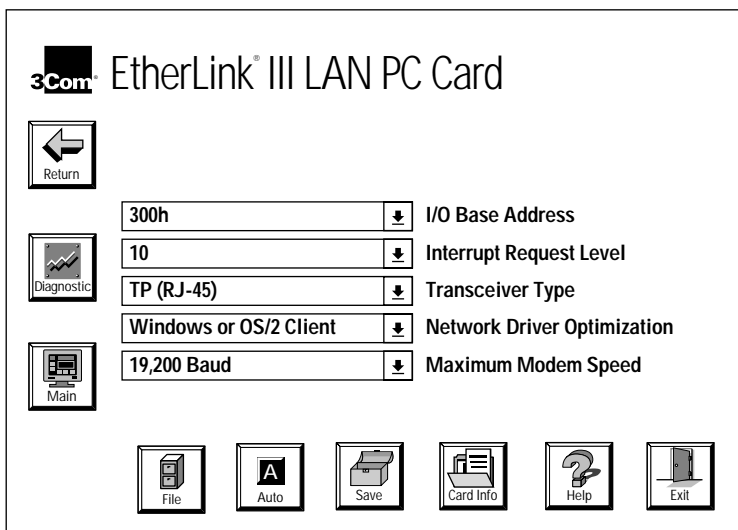

Figure 5-3 Configuration Screen
A Configuration screen similar to Figure 5-3 appears. The values shown here are not default values.
The Configuration screen appears, as shown in Figure 5-3. You can change the following PC Card configuration parameters: I/O Base Address, Interrupt Request Level, Transceiver Type, Network Driver Optimization, and Maximum Modem Speed.
- 3 To change the PC Card configuration settings, scroll through the values next to each configuration setting shown in Figure 5-3, until you find the value you want.
- 4 To set the new values, click *Save*, shown in Figure 5-3.